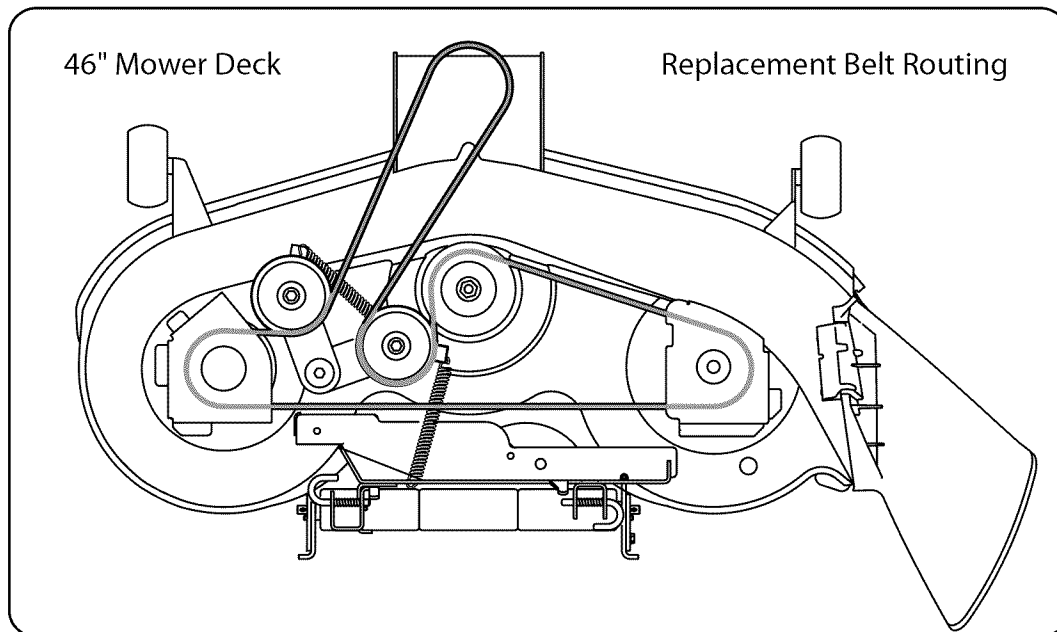

Figure 27 Replacement Belt Routing 46" Mower Deck
- **46" Mower Deck ONLY** - Remove the old belt from the deck. Install the new belt around the spindle and idler pulleys as shown in Figure 27.